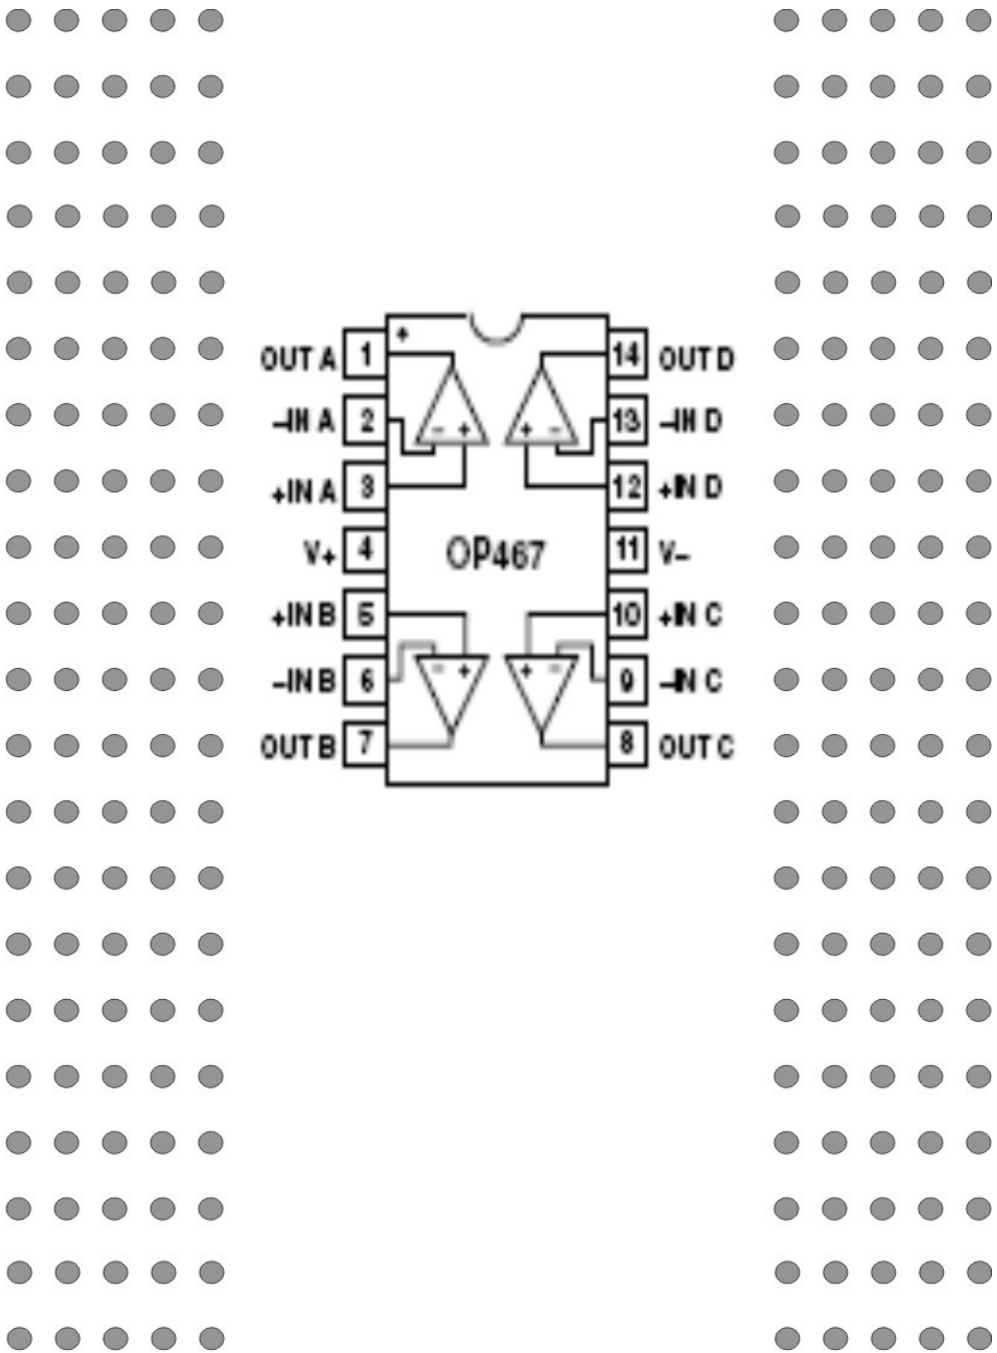

Figure 5: Wiring Sketch pad for opamp breadboard.
1. The pin diagram for the chip is shown in Fig. 4. To assist in wiring the circuits for this lab, there is a wiring sketch pad at the end of this document in Fig. 5. You may want to sketch out the connections required in the following step before cutting wires and making connections on your breadboard.